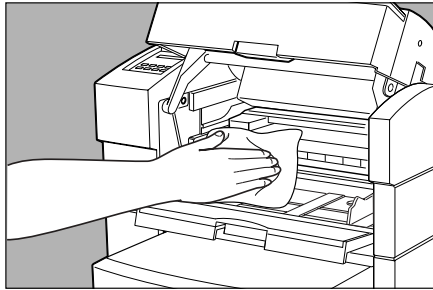

Fig. 6.3 Toner and Manual Feed Area Cleaning
2. Remove any paper scraps and wipe off paper and toner dust with a dry clean cloth (fig. 6.3).